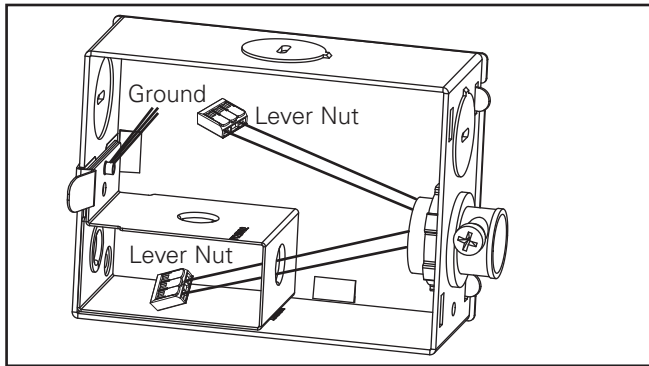

Figure 10
2. Remove junction box cover (Figure 10).